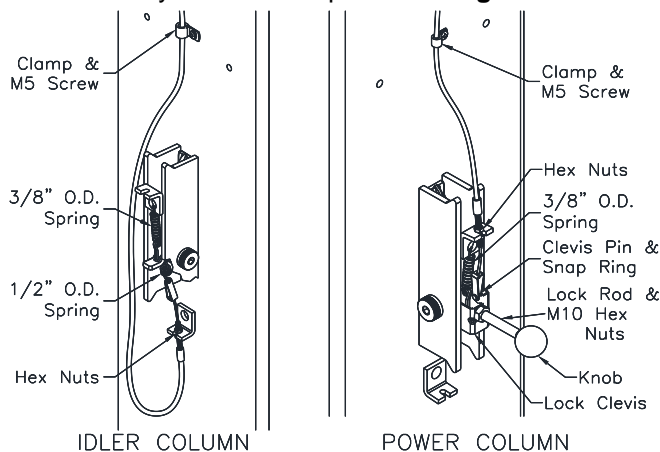

Fig. 9 – Lock Assembly
31) Attach Mechanical Lock Release Cable Assembly to each lock pawl. See **Fig. 9**.